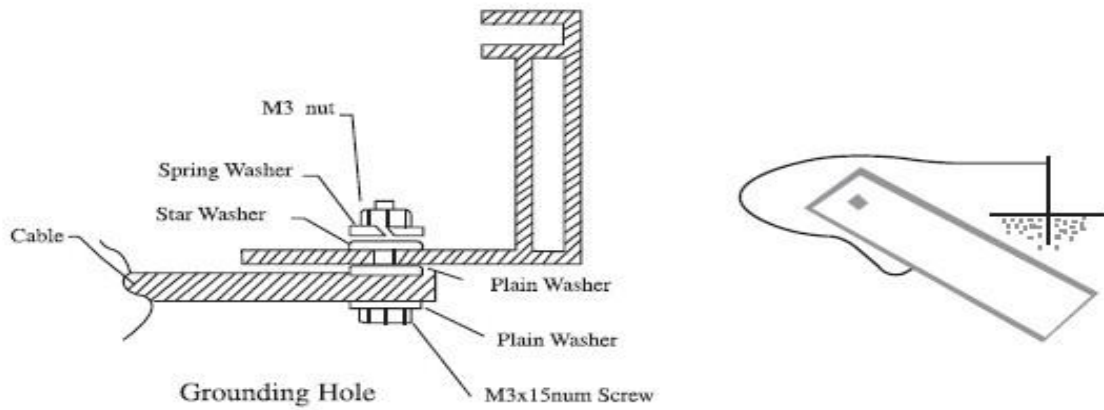

Figure 7: The graph of Grounding
- e) All module frames and mounting racks must be properly grounded in accordance with local and national electrical codes. Attach the equipment grounding conductor to the module frame using the hole and hardware provided. Not that a stainless steel star washer is used between the ground wire and module frame (see Figure 7 below).This washer is used to avoid corrosion due to dissimilar metals. Tighten the screw securely.